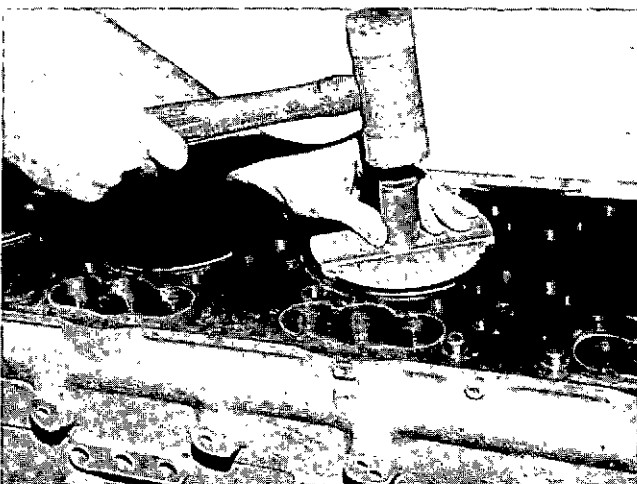

Fig. 14-1-18, V414121. Installing liner with ST-594
3. Drive liners to seat with ST-594 Cylinder Liner Driver; when liner is near seat, tap easily to prevent bouncing off seat as liner is driven in place. Fig. 14-1-18.